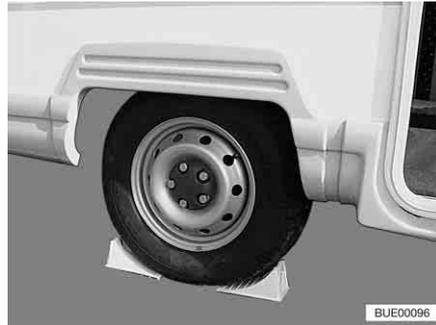

Fig. 295 Securing vehicle
- Place wheel chocks or other appropriate objects beneath the opposite wheel of the vehicle to secure it (Fig. 295).